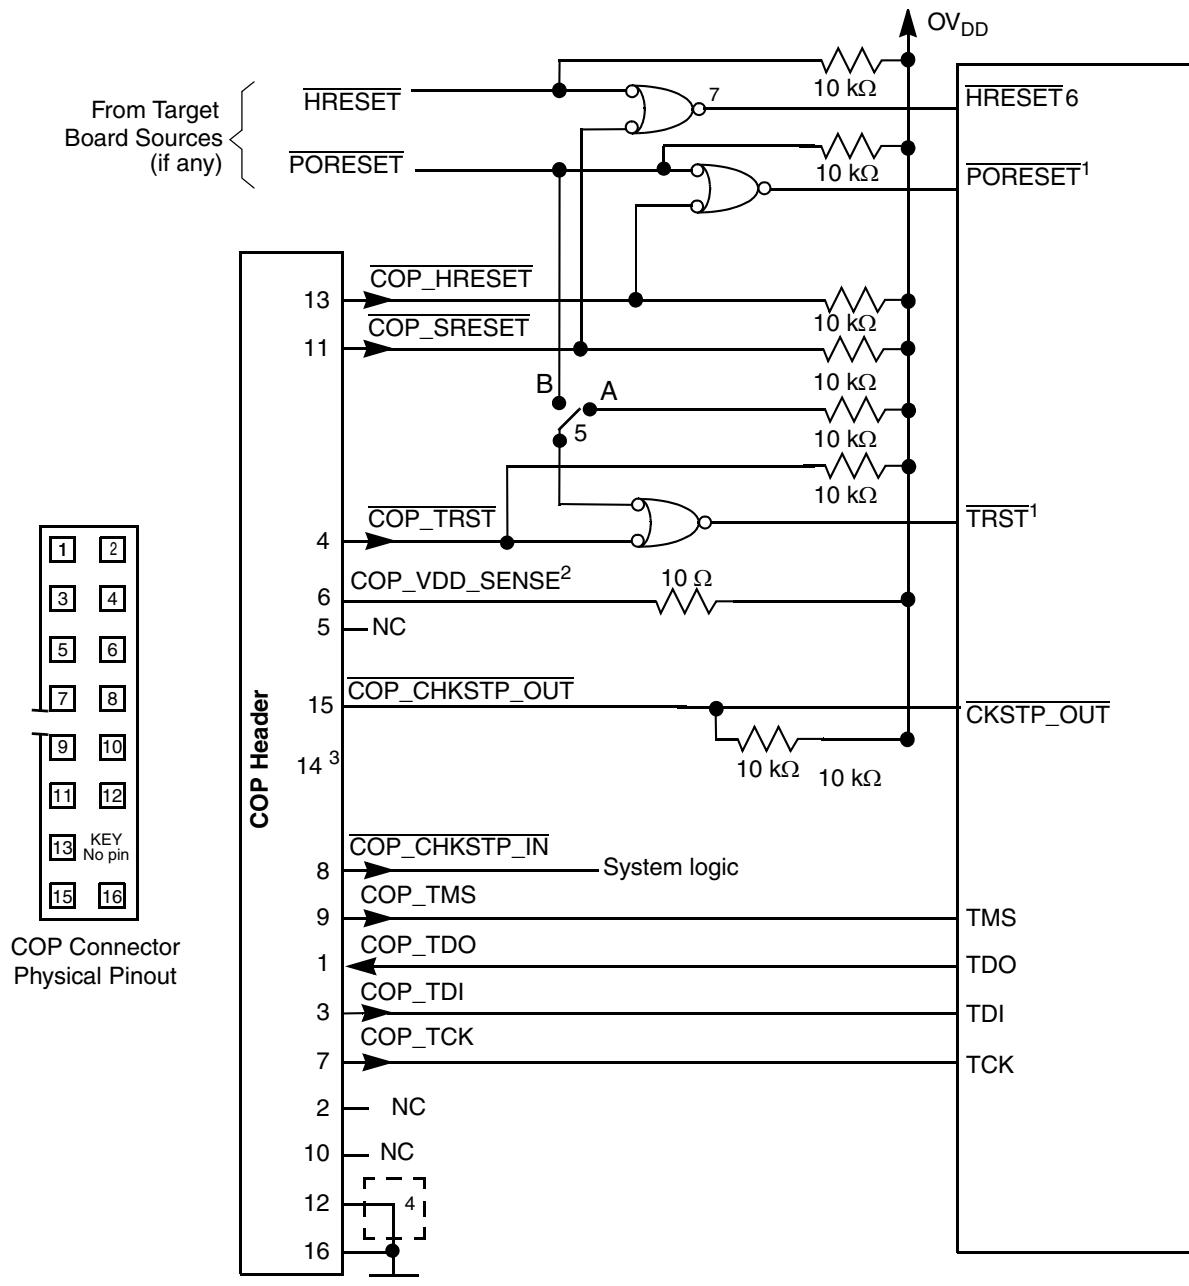

Figure 55. Legacy JTAG Interface Connection
Correct operation of the JTAG interface requires configuration of a group of system control pins as demonstrated in Figure 55. Care must be taken to ensure that these pins are maintained at a valid negated state under normal operating conditions as most have asynchronous behavior and spurious assertion will give unpredictable results.
The arrangement shown in Figure 55 allows the COP port to independently assert `PORESET` or `TRST`, while ensuring that the target can drive `PORESET` as well.
- `TRST` must be tied to `PORESET` through a 0 kΩ isolation resistor so that it is asserted when the system reset signal (`PORESET`) is asserted, ensuring that the JTAG scan chain is initialized during the power-on reset flow. Freescale recommends that the COP header be designed into the system as shown in Figure 55. If this is not possible, the